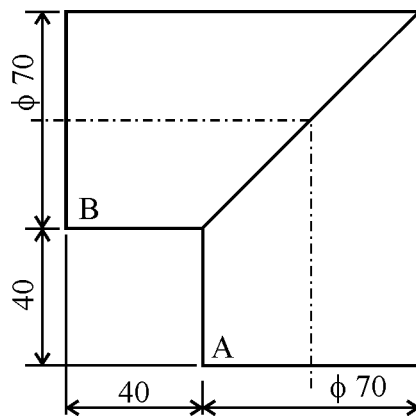

Fig. 4
- (b) Draw the development of lateral surface of Part 'A' and Part 'B' of a right angle elbow shown in Fig. 4.